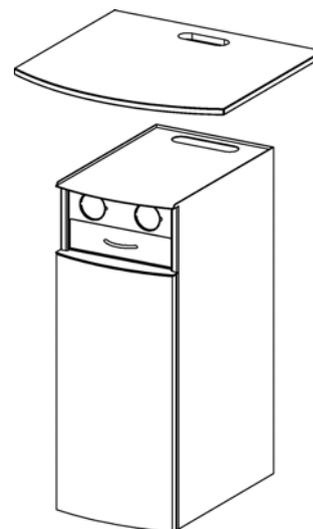

Fig. 10
**3.3.3 Bottom cabinet (fig. 10)**